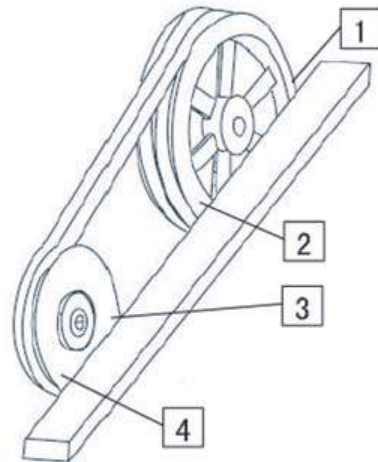

Fig.10-3
■ life of belt. Every time after belt adjustment, you should check if positions of the 2 pulleys are correct, refer to figure 10-3, you can put a ruler on the same side of 2 pulleys to check if positions of 2 pulleys are correct. Check if point 1, point 2, point 3 and point 4 are in the same plane. If not, you can loosen fixed screws of fan pulleys and along the fan axle to slide fan pulleys. Loosen motor to adjust the angle on the fan slide way. Adjust to straightness ≤ 2mm.